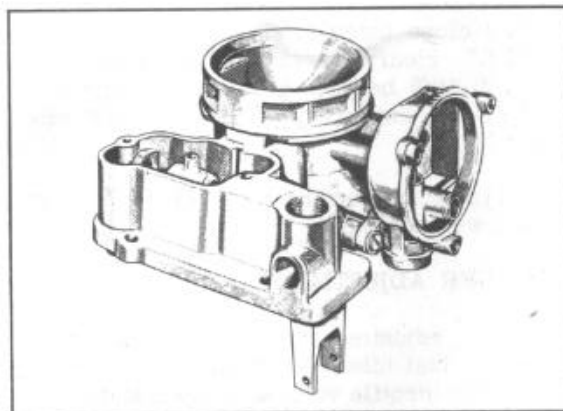

FIGURE 57
5. Remove all parts from bowl cover, Figure 57.